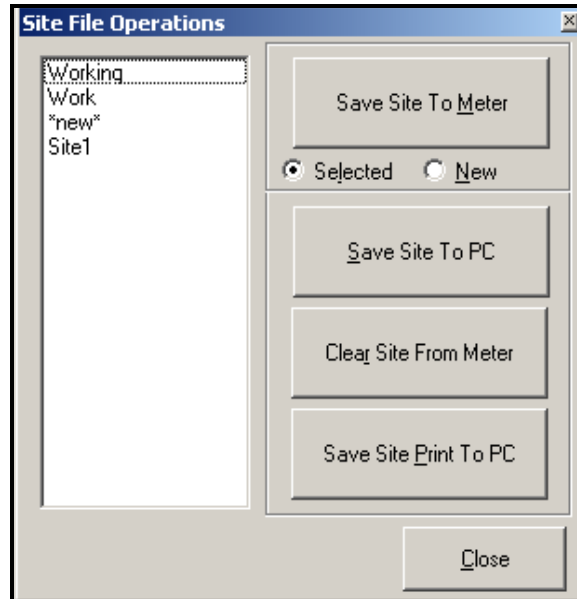

Figure 31: *Site File Operations* Window
To access site files, click on the *Site Files* button in the *Properties* window. The *Site File Operations* window (shown in Figure 31 below) opens.
1. Highlight the desired site in the left pane. (See Figure 31 on page 102.)
1. Highlight the site in the left pane. (See Figure 31 on page 102.)